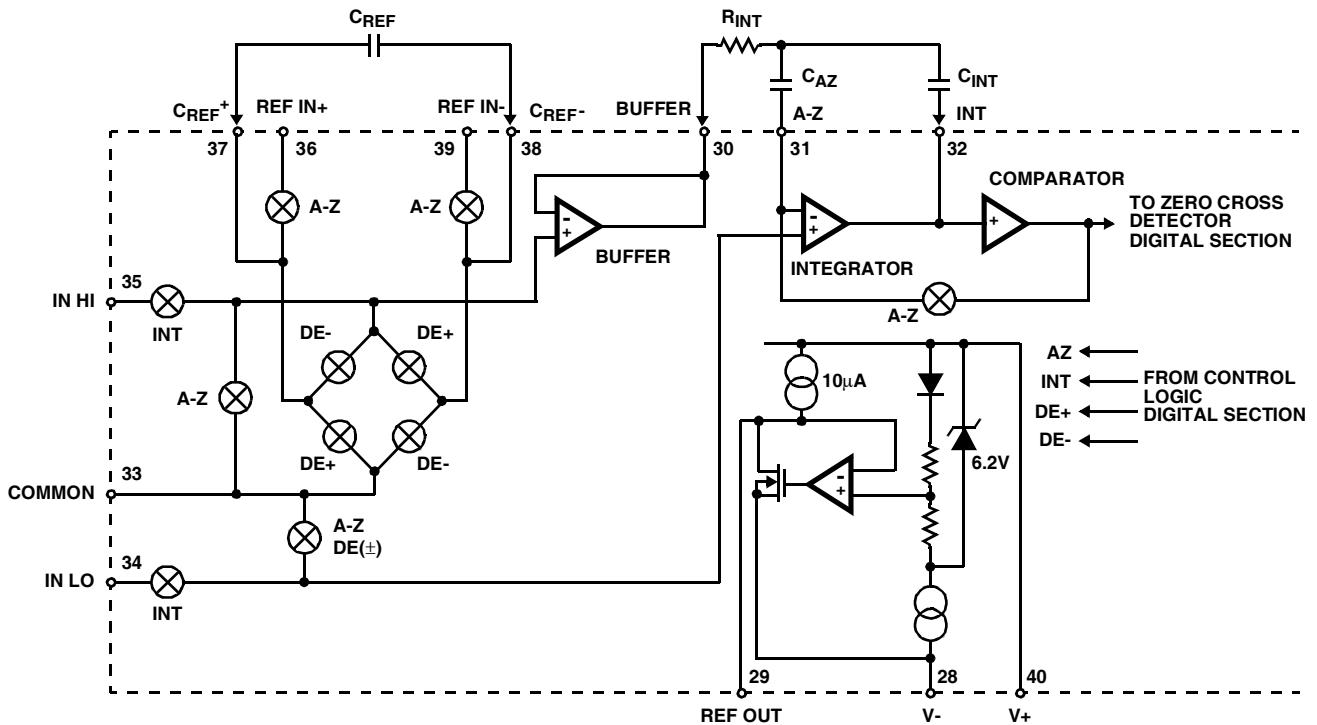
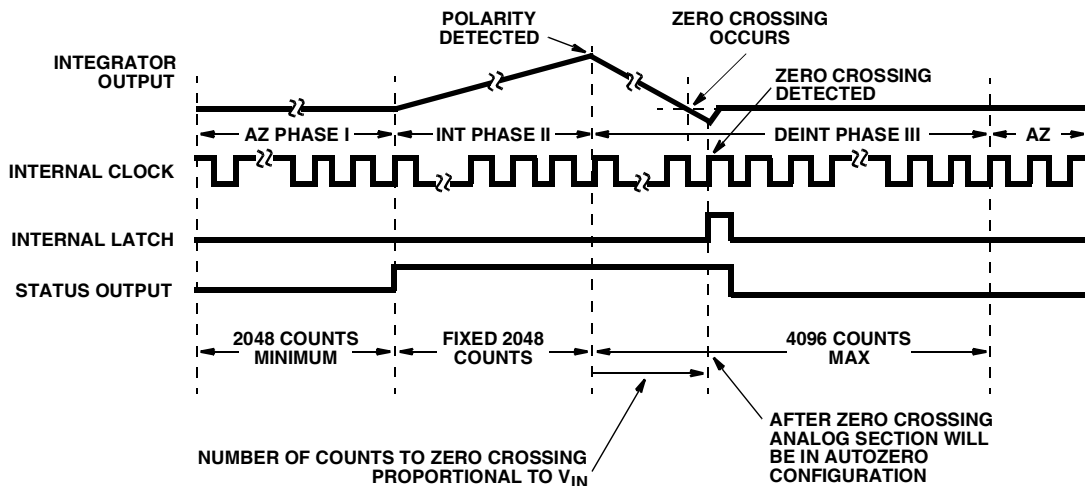

FIGURE 2. ANALOG SECTION OF ICL7109
FIGURE 3. CONVERSION TIMING (RUN/HOLD PIN HIGH)
Figure 2 shows the equivalent circuit of the Analog Section for the ICL7109. When the RUN/HOLD input is left open or connected to V+, the circuit will perform conversions at a rate determined by the clock frequency (8192 clock periods per cycle). Each measurement cycle is divided into three phases as shown in Figure 3. They are (1) auto-zero (A-Z), (2) signal integrate (INT) and (3) de-integrate (DE).